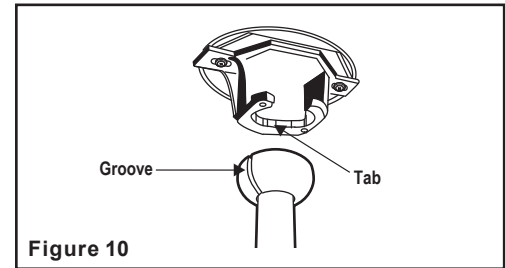

Figure 10
**Step 11.** Place the downrod ball into the hanger bracket socket. (Fig. 10)